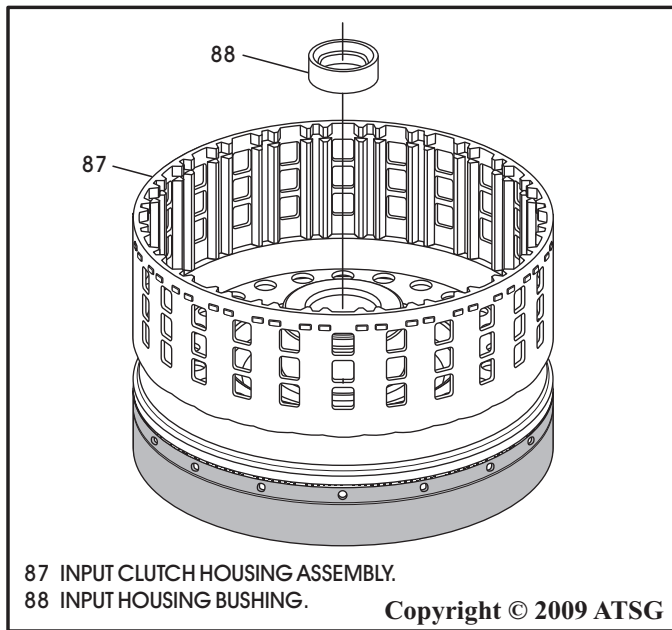

Figure 97
4. Install new bushing as necessary, Figure 97.